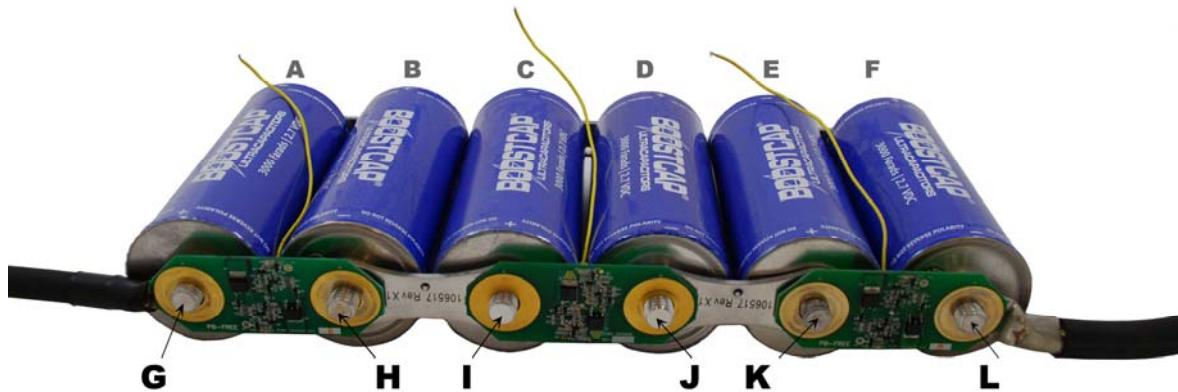

Figure 8
3.2.7 Place a voltage management board over each pair of threaded terminals as shown in Figure 8, with the printed circuit board components facing away from the capacitor. Make sure that the buss bar and power cable connections are **below** the voltage management board.